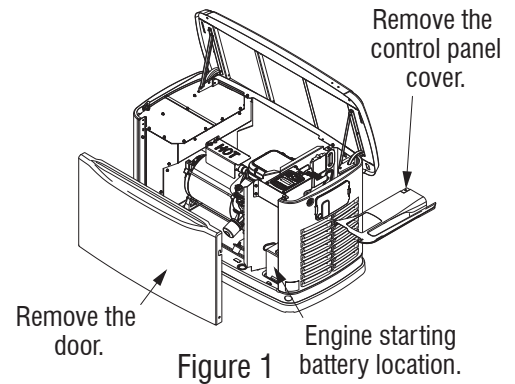

Figure 1
2. Remove the door; then remove the screws securing the control panel cover over the control panel. Using a clean towel, wipe the bottom of the battery and engine block to remove any dirt, oil or contaminants (Figure 1).